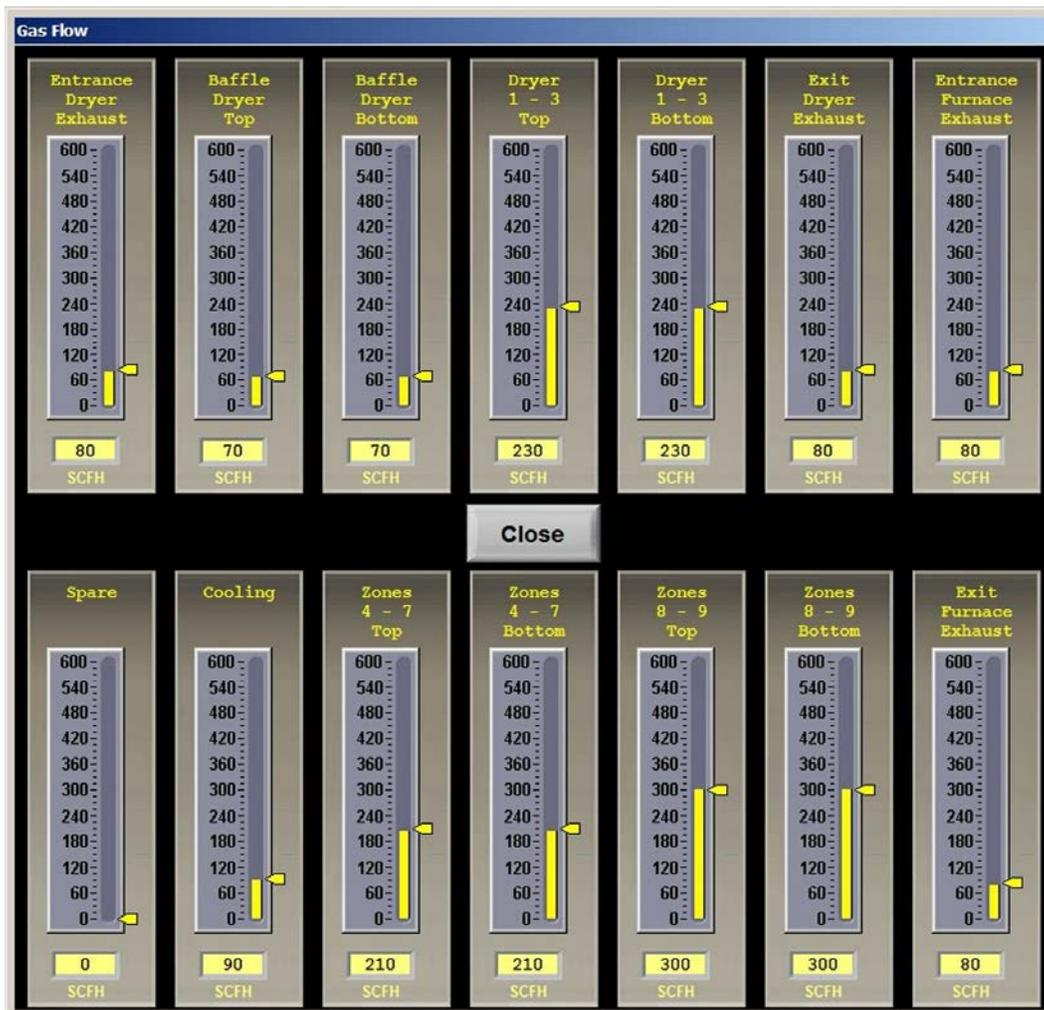

Figure 2-45 Gas Flow Screen
**Flow Meter Recipe Settings.** Select Recipe button and on the Recipe screen, select the Gas Flow button. The Gas Flow screen (Figure 2-45) will displayed. The Gas Flow screen is provided as a record of the settings required for the recipe only. This screen displays the flowmeter setpoint values stored for the recipe in the editor. The flowmeters must be adjusted manually for each recipe loaded.
The labels as flowmeter ranges are entered at the factory. To change the recipe value for a flowmeter location, click on the setpoint field (Figure 2-45) and enter a new value.